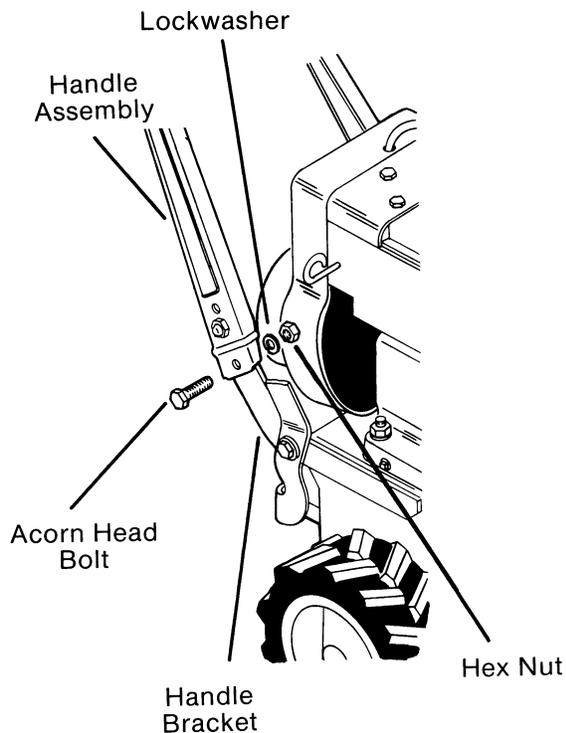

FIG. 2
- A. Attach snow thrower handle assembly; position handle tubes on the outside of the handle brackets. (Fig. 2) Line up holes and secure handle assembly in place with four acorn head bolts, lockwashers and hex nuts. (Fig. 2)